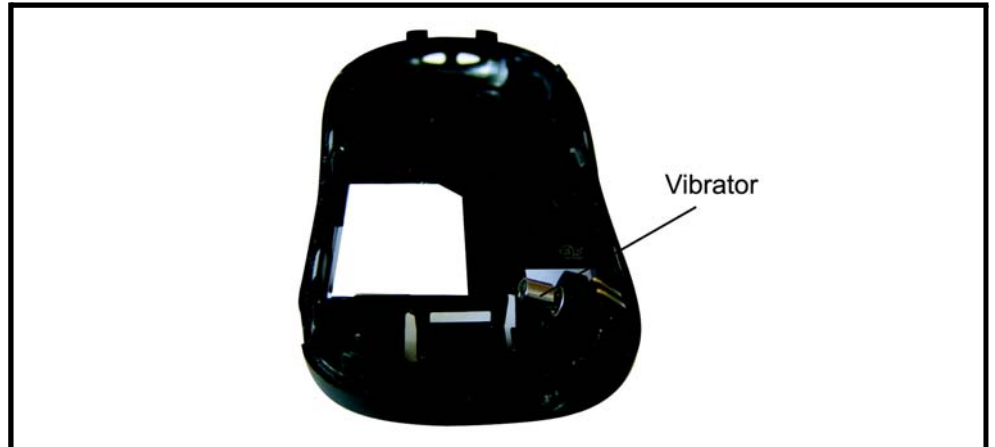

Figure 13. Gently pry up the vibrator motor on the inside of the back housing
- The MSN is divided into 4 sections as shown in Figure 13.